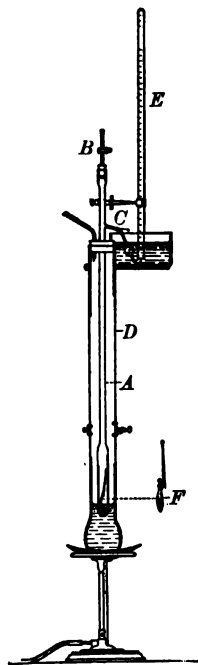

FIG. 49
**120. Determination of molecular weights.** *Molecular weight of chloroform.* (The following experiment will be performed by the laboratory instructor. The students will answer all questions and make the calculations. Before performing the experiment, read over the directions and discuss the method until you thoroughly understand it.) Obtain from the store-room the Victor Meyer apparatus shown in Fig. 49. This apparatus consists of two glass tubes, the smaller one of